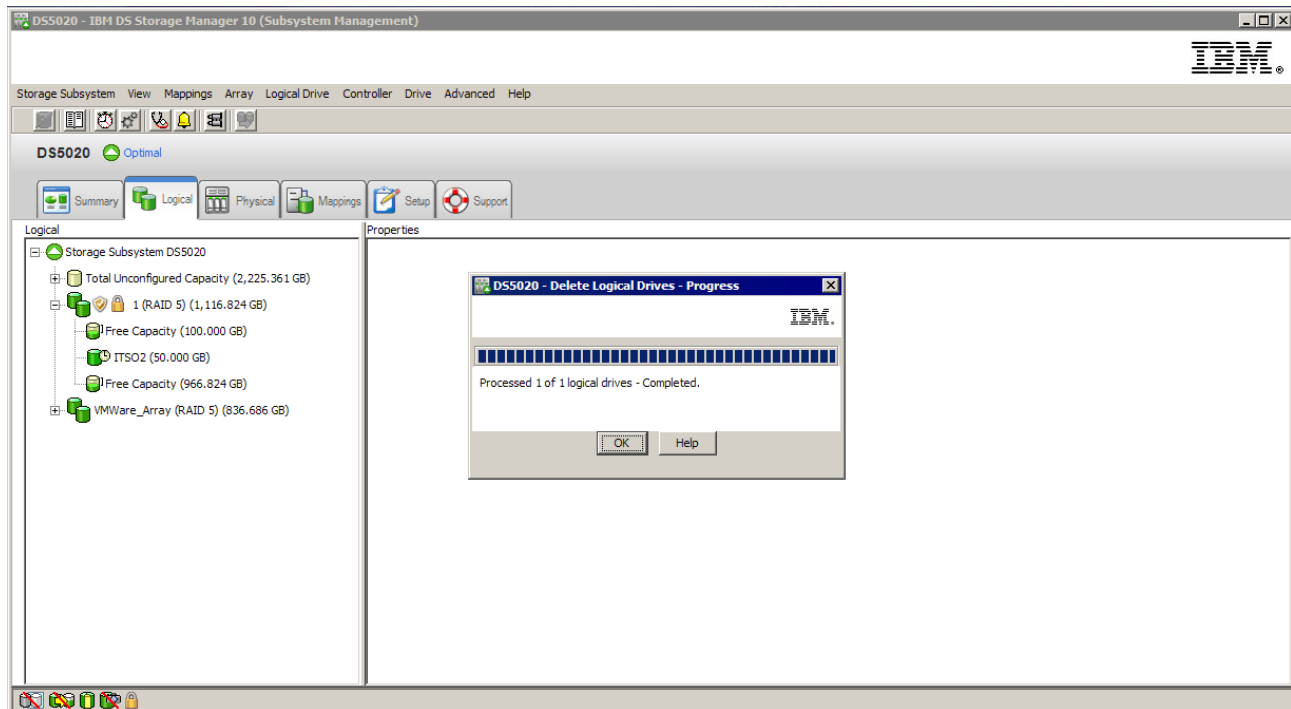

Figure 3-118 Task completed screen
- When deletion is complete window is displayed as shown in Figure 3-118; select “OK”.